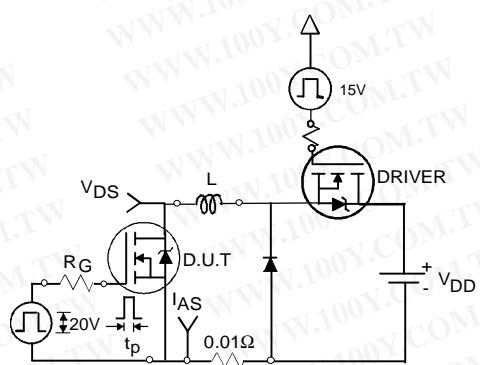

Fig 12a. Unclamped Inductive Test Circuit
3. Equation below based on circuit and waveforms shown in Figures 12a, 12b.
- ④ Pulse width $\leq 400\mu\text{s}$; duty cycle $\leq 2\%$.
- ⑤ $C_{OSS,\text{eff}}$ is a fixed capacitance that gives the same charging time as C_{OSS} while V_{DS} is rising from 0 to 80% V_{DSS} . Refer to AN-1001
- ⑥ Calculated continuous current based on maximum allowable junction temperature. Package limitation current is 95A.
- ⑦ Limited by $T_{J,\text{max}}$, see Fig.12a, 12b, 15, 16 for typical repetitive avalanche performance.